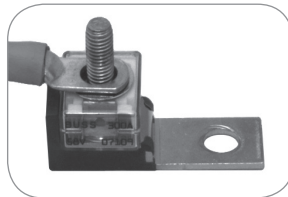

Fig. 6. Fuse MRBF and cable lug inserted into the stud of the CFBAR
B. Insert the cable lug (crimped to one end of the Positive battery cable) onto the CFBAR stud so that it sits over the fuse MRBF. See Fig. 6.